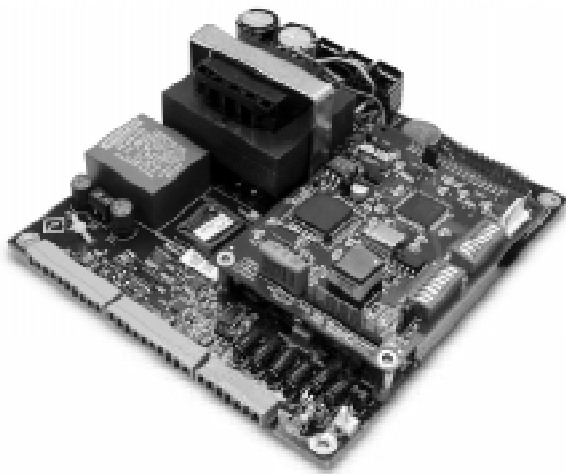

Figure 2-1. Option Card Installed on *520* CPU Board
4. Use the screws provided in the option kit to secure the other end of the option card to the threaded standoffs on the CPU board (see Figures 2-1 and 2-2).